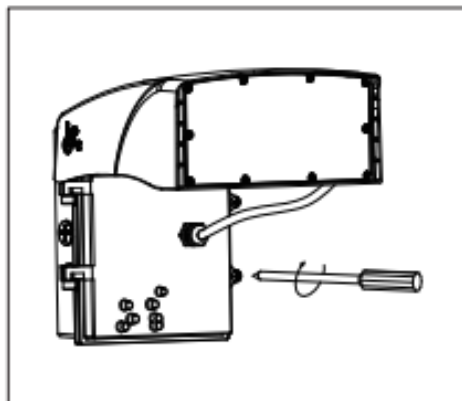

Figure 12
Step 8: Well organize the line and tighten the screws of the lamp base (Figure 12 & Figure 13).